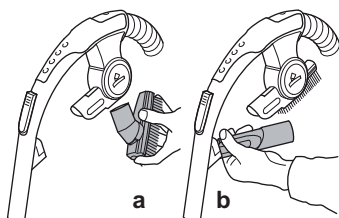

Fig. 13
- Insert the 2-in-1 combi nozzle into the accessory bracket (Fig. 13/a).
- Push the crevice nozzle onto the accessory bracket and fold it down until you feel and hear it snap into place (Fig. 13/b).